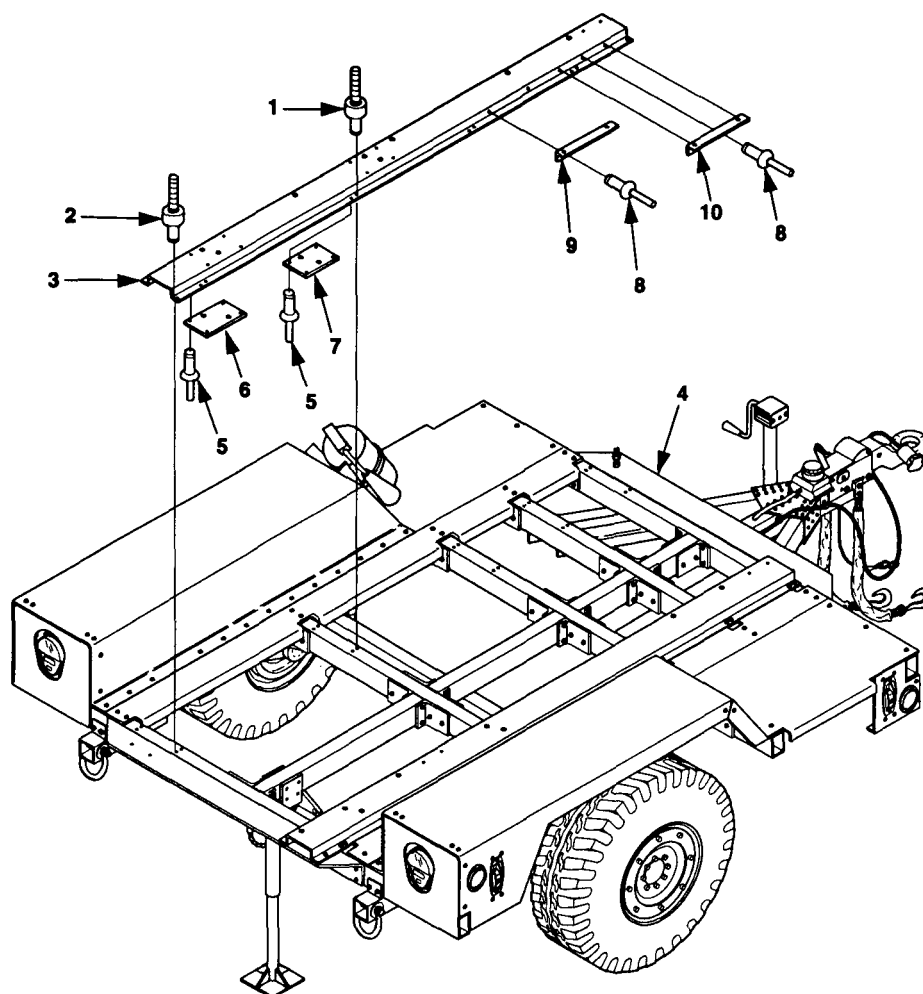

Figure 5-18. PU-801A Generator Mounting Rail Replacement.
Remove rivets (1 and 2, figure 5-18) and mounting rail (3) from trailer chassis (4).